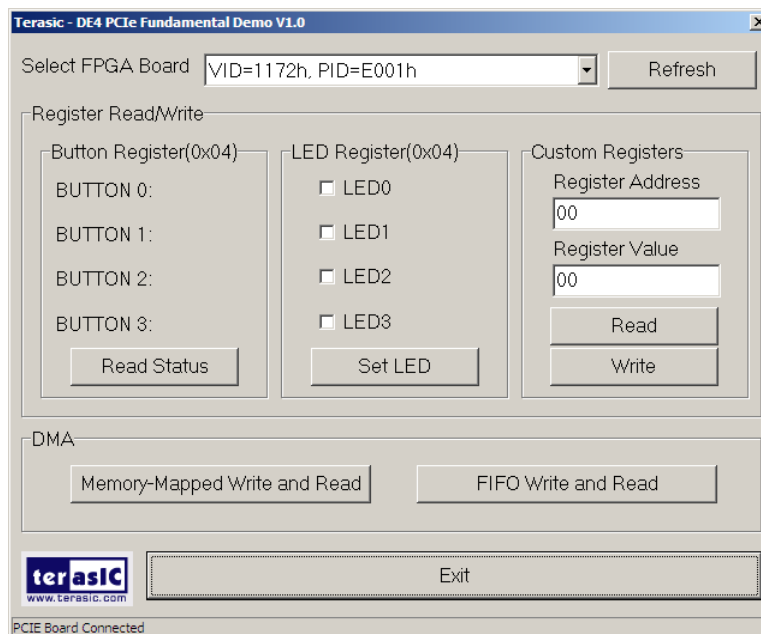

Figure 6–12
- Launch the demo program *PCIE_Fundamental_Demo.exe* shown in **Figure 6–12**.